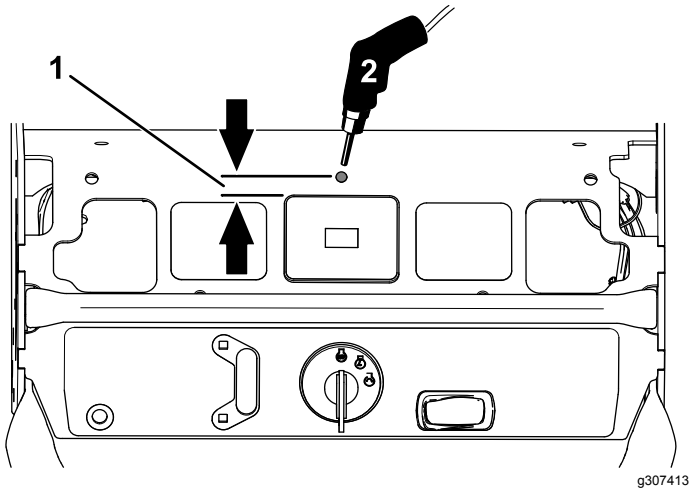

Figure 7
6. Drill a hole (12 mm or 1/2 inch) in front of the hour meter for the toggle switch (Figure 7).